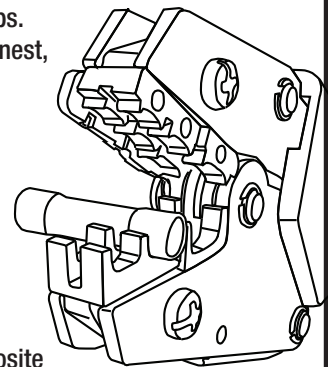

Figure 3
3. Splices require two crimps. Position splice in proper nest, as shown in Figure 3.